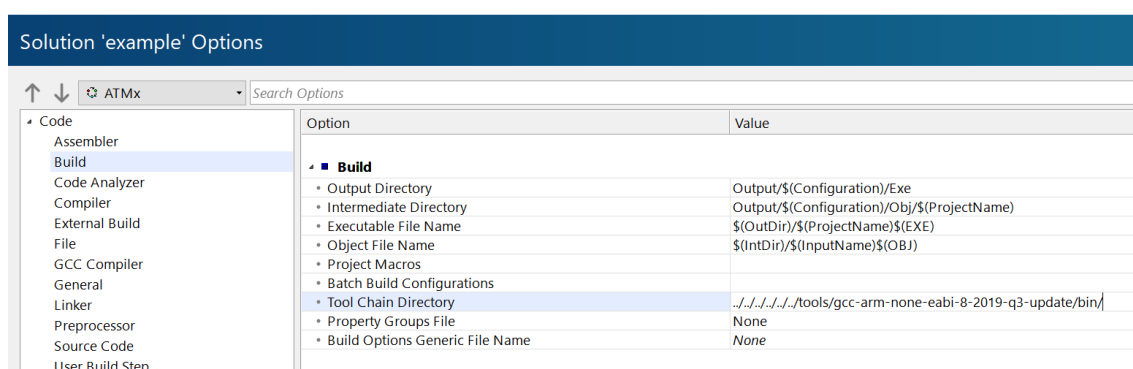

Figure 3 - Tool Chain Directory
- Figure 3 - Tool Chain Directory
The GNU/GCC toolchain will use Atmosic SDK's path for SES by default. If users want to modify the toolchain path, users need to modify it in SES ID, see Figure 3. To get to this UI, select Project -> Options.